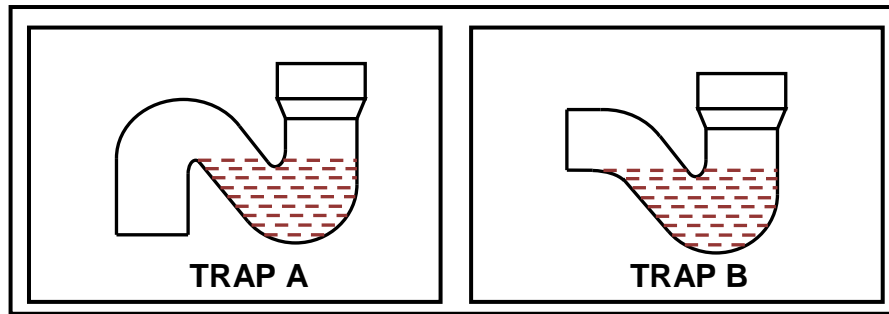

FIGURE 6.2
- (1)
6.2 FIGURE 6.2 below shows drawings of TWO different water traps found in a sewerage system.
6.2.2 Explain the function of the water at the base of EACH of the fittings in FIGURE 6.2. (1)